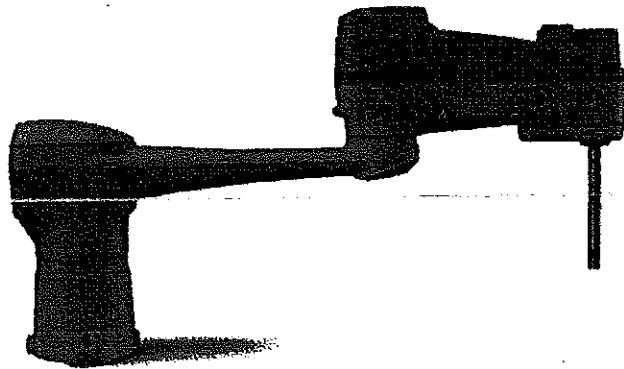

Figure 01
- (b) Figure 01 represents a robot manipulator commonly used in the industry known as Selective Compliance Assembly Robot Arm or SCARA.
For the above SCARA robot shown in Figure 01,